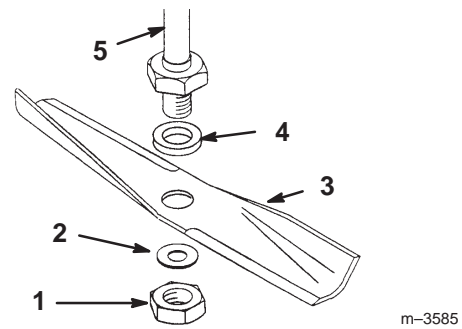

Figure 29
2. Remove the nut, two washers, and blade (Fig. 29).
2. Install the thick washer, blade, thin flat washer, and the nut (Fig. 29).